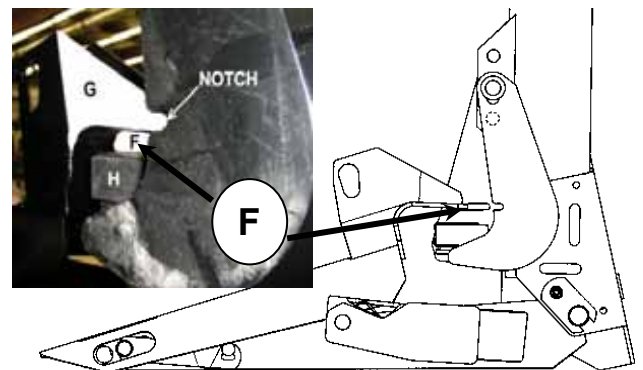

Fig.4 Float Arm Down Stop Setting
- Float Optimizer should be set with float on downstop pad (F = 0, See Fig 4).
- Raise header 150mm (6") off the ground and shut off combine. Press down on float optimizer until clearance at (J) is slightly more than 1mm (1/16") between upper arm and base. (indicator at 1" to 1-1/4") This will be deemed the nominal setting prior to adjusting ground pressure with combine controls.
- Hold in this position and slide bolt (H) up until sensing arm touches the bottom of the center link cylinder if adjustment is required.
- Lock bolt (H) in position with nut.